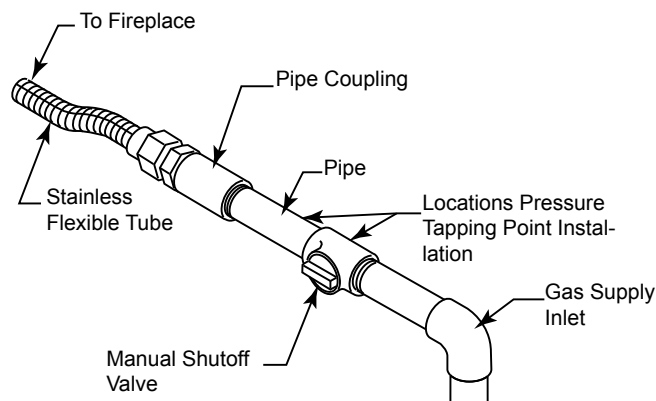

Figure 12. Gas Connection
**WARNING:** Use new black iron or steel pipe. Internally tinned copper or copper tubing can be used per National Fuel Code, section 2.6.3, providing gas meets hydrogen sulfide limits, and where permitted by local codes. Gas piping system must be sized to provide minimum inlet pressure (Listed on Data Plate) at the maximum flow rate (BTU/hr). Undue pressure loss will occur if the pipe is too small. A manual shutoff valve must be installed upstream of the appliance. Union tee and plugged 1/8" NPT pressure tapping point should be installed upstream of the appliance. Figure 12